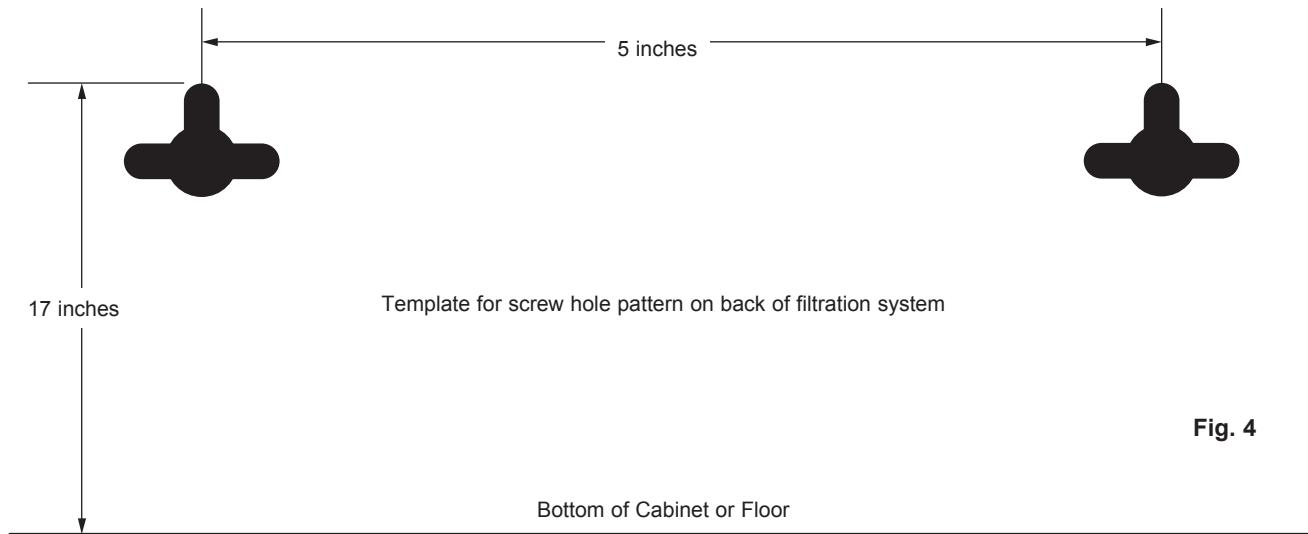

Fig. 4
2. The top of the template openings should be placed a minimum of 17 inches above the bottom of the cabinet or floor where the system is to be mounted (Fig. 4 and 5).